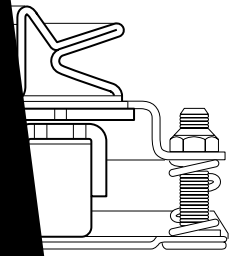

**Figure 22. Parking Brake Adjustment**
6. Locate the lower brake spring (A, Figure 22), adjustment nuts (B, Figure 22) and adjustment link (C, Figure 22).
7. Release the parking brake and turn the adjustment nuts to compress or release the upper spring. Lock the nuts against the adjustment link (C, Figure 22).